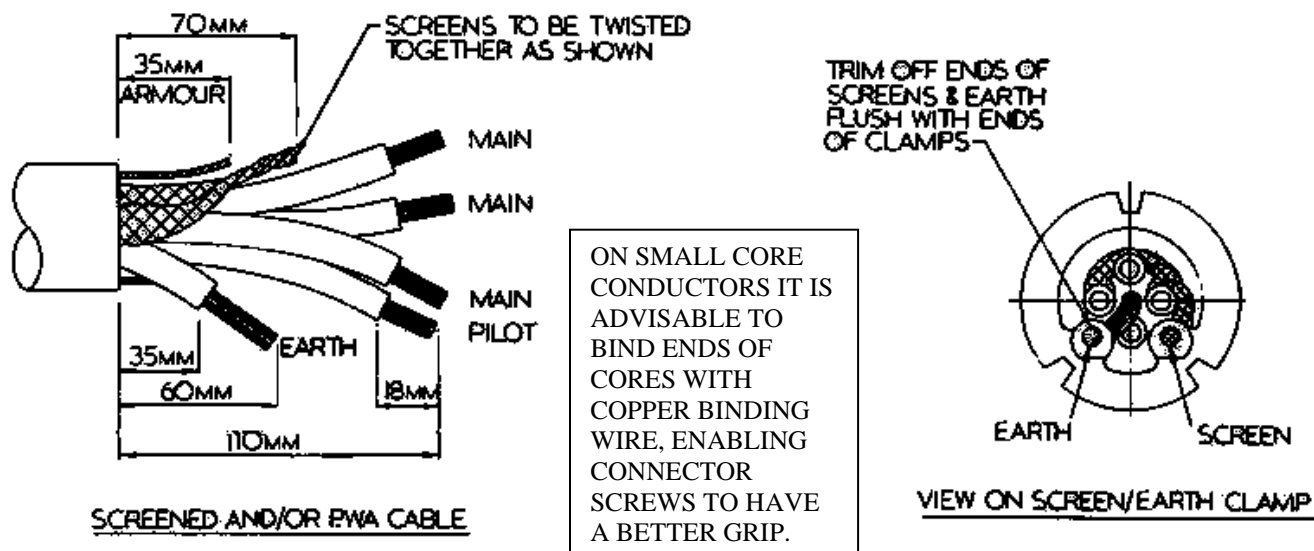

Fig.3
2. The cable should now be stripped in accordance with the appropriate diagram (Fig.3). Baring of the power and pilot cores should be left until stage 6. The screens should be carefully twisted together ensuring that the maximum screen covering is maintained between the cores.